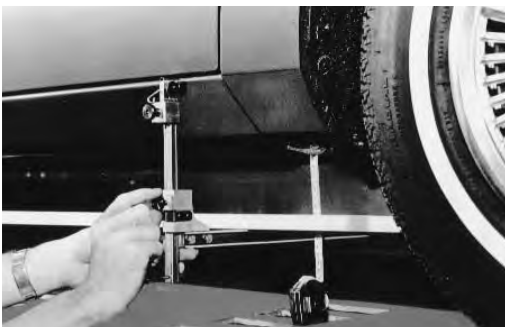

Figure 64
3. Raise or lower the horizontal bar until bottom of tram gauge bar is at the datum height of the reference point. Tighten the thumb screw on the scale housing and note the scale reading. (See Figure 64.)